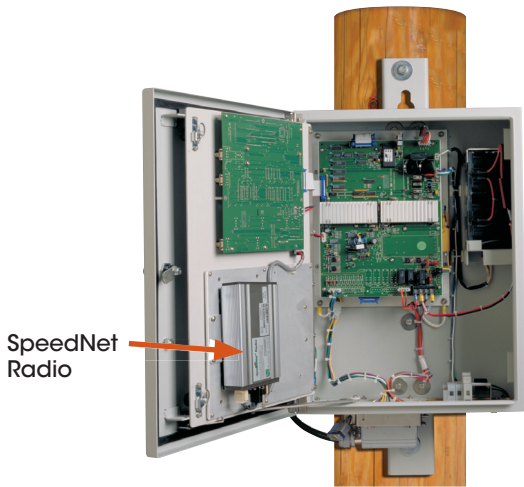

Figure 2. An example of a SpeedNet Radio inside a 6801 Automatic Switch Control.
- D** A 6801 Automatic Switch Control—Applied with the Scada-Mate® Switching System; see Figure 2 on page 4